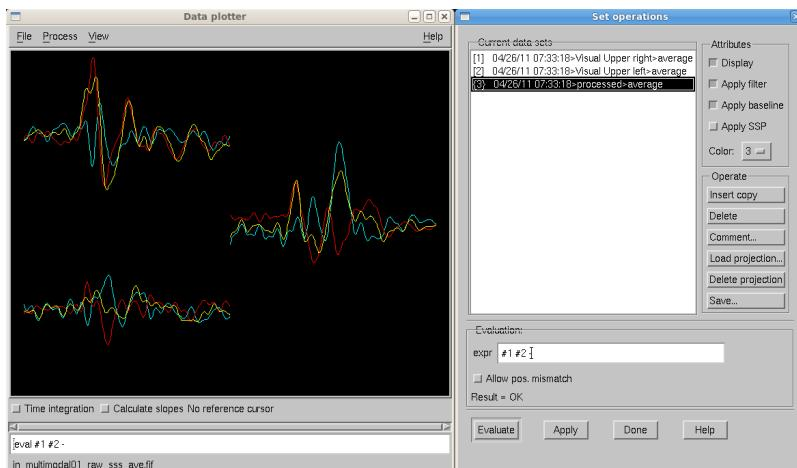

Figure 24: *Xplotter* Set operations.
- To see a list of loaded data sets and controls for changing their display, filters, baseline and SSP status (Figure 24).
- For computing the difference between the sets, use the expression “**#1 #2 –**” and select **Evaluate**. A third trace (blue) showing the difference of the two original ones should now appear on the main Plotter window (Figure 24).